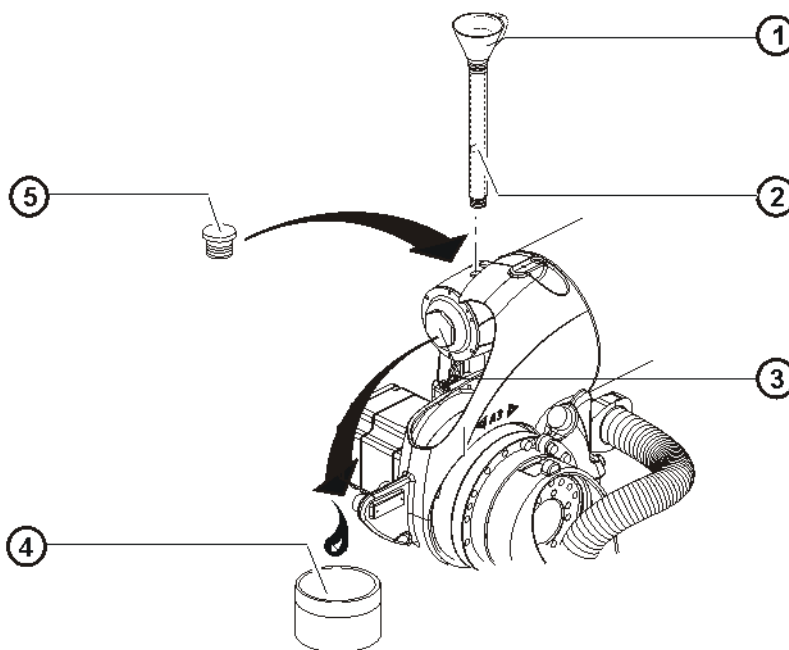

Fig. 9-13: Changing the oil on axis 4, input stage
1. Move axis 3 (>>> Fig. 9-13) into the 0° position.
1. Screw in the hose (>>> Fig. 9-13).